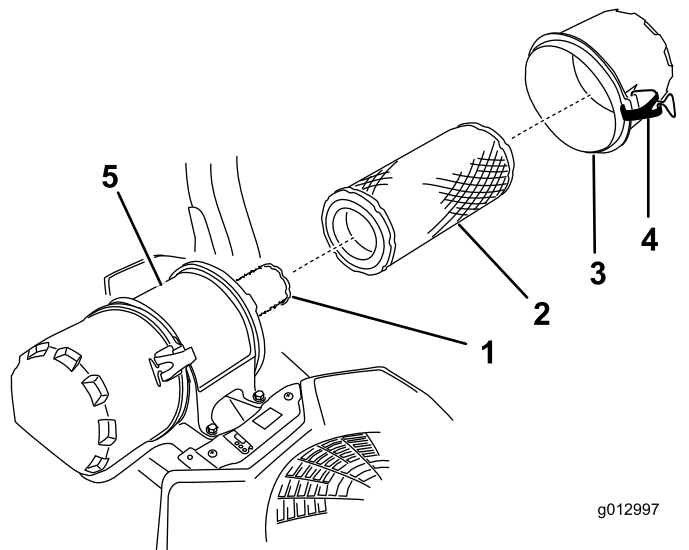

Figure 46
6. Release the latches on the air cleaner and pull the air-cleaner cover off the air-cleaner body (Figure 46).
8. Gently slide the primary filter out of the air-cleaner body (Figure 46).
2. If the inner filter is being replaced, carefully slide it into the filter body (Figure 46).
3. Carefully slide the primary filter over the inner filter (Figure 46).
4. Install the air-cleaner cover and secure the latches (Figure 46).